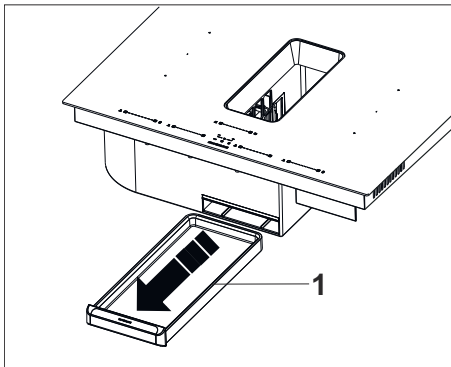

Fig. 5
1. First remove the water tank to replace active carbon filter (Fig. 5).